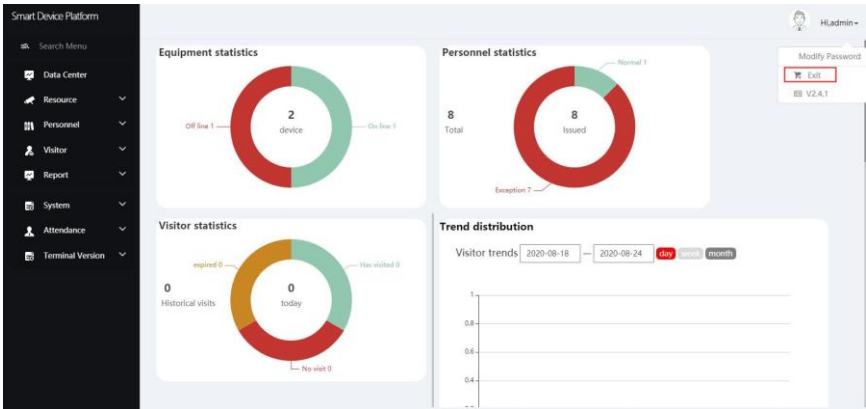

Figure 5-106
Step 1: In the smart device platform interface, click "→Exit", as shown in Figure 5-106 below.